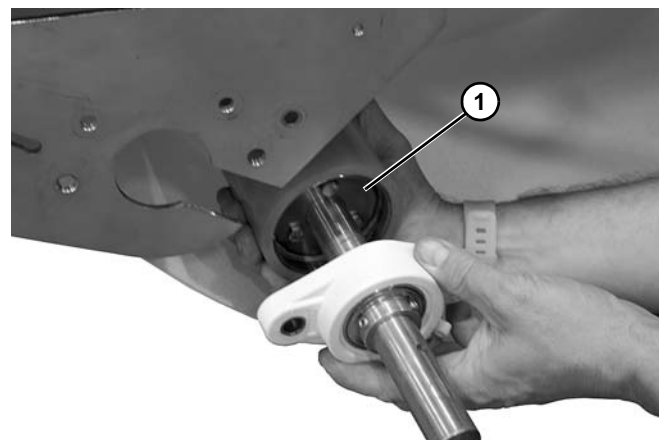

Figure 114
7. Slide drive pulley (Figure 114, item 1) out.